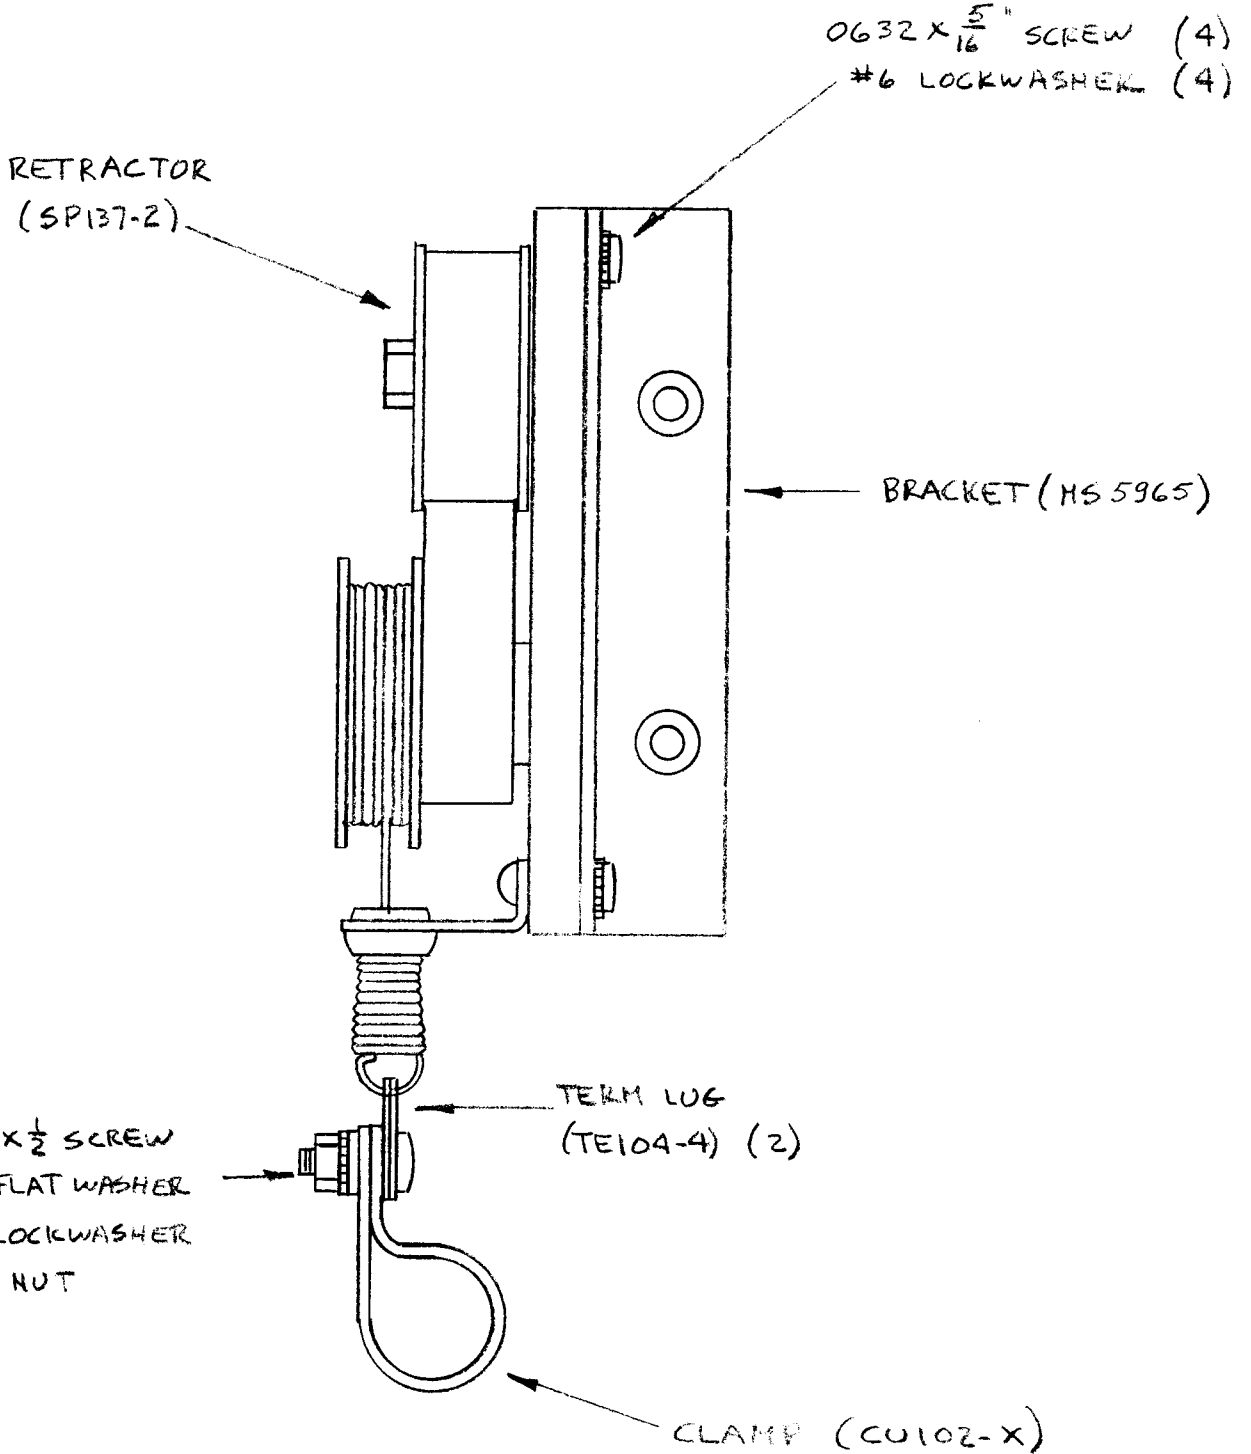

FIG. 4
1. Refer to Fig. 4 and 5 and Hardware Bag #4.
2. Mount the bracket (MS5965) to the spring retractor (SP137-2) with four (4) 0632 x 5/16 screws, and #6 lockwashers.
4. Mount the retractor and bracket to the right side rear channel of the frame using four (4) 1032 x 1/2 screws and #10 split lockwashers. Mount the retractor so the eyelet is approximately 3 inches above the slide.